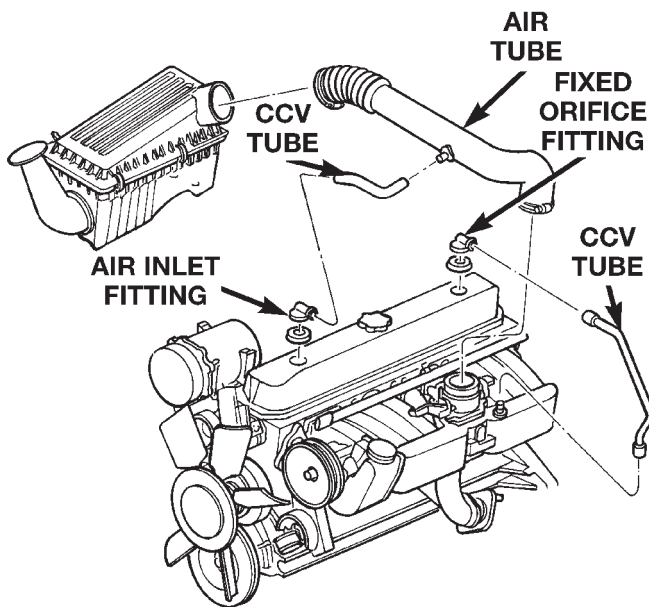

Fig. 9 Air Inlet/CCV System—4.0L Engine
(1) Disconnect the battery negative cable.
(2) Remove air cleaner inlet hose from the throttle body and air cleaner assy (Fig. 9).
(3) Disconnect the accelerator cable, speed control cable (if equipped) and the transmission line pressure cable (if equipped). Remove these cables from the bracket.
(4) Disconnect the following electrical connectors:
(5) Secure the electrical harness out of the way.
(6) Disconnect the power brake booster vacuum supply hose from the intake manifold.